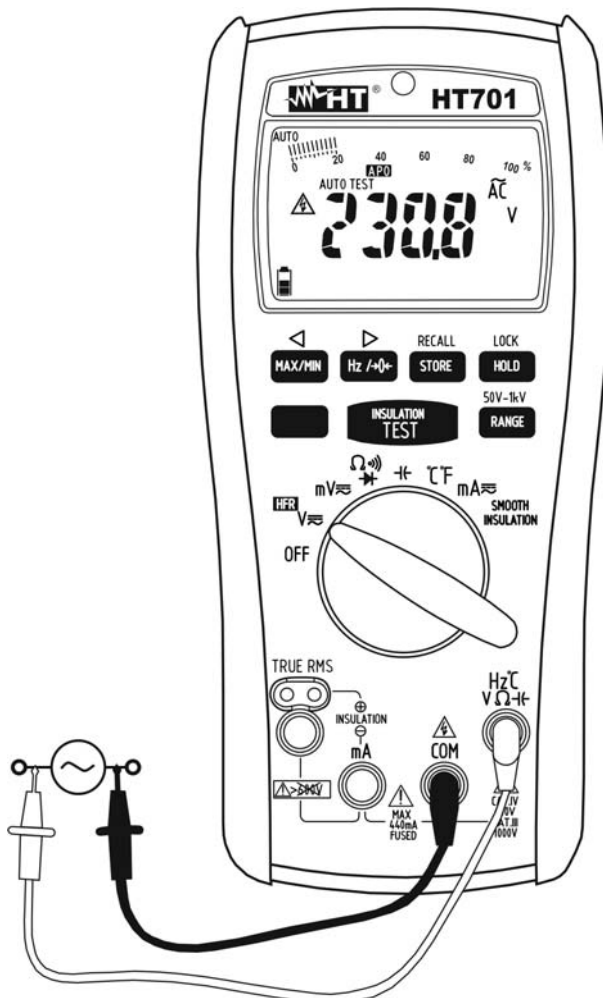

Fig. 3: Use of the instrument for AC voltage measurement
5. Position the red lead and the black lead respectively in the points of the circuit to be measured (see Fig. 3). The display shows the value of voltage.